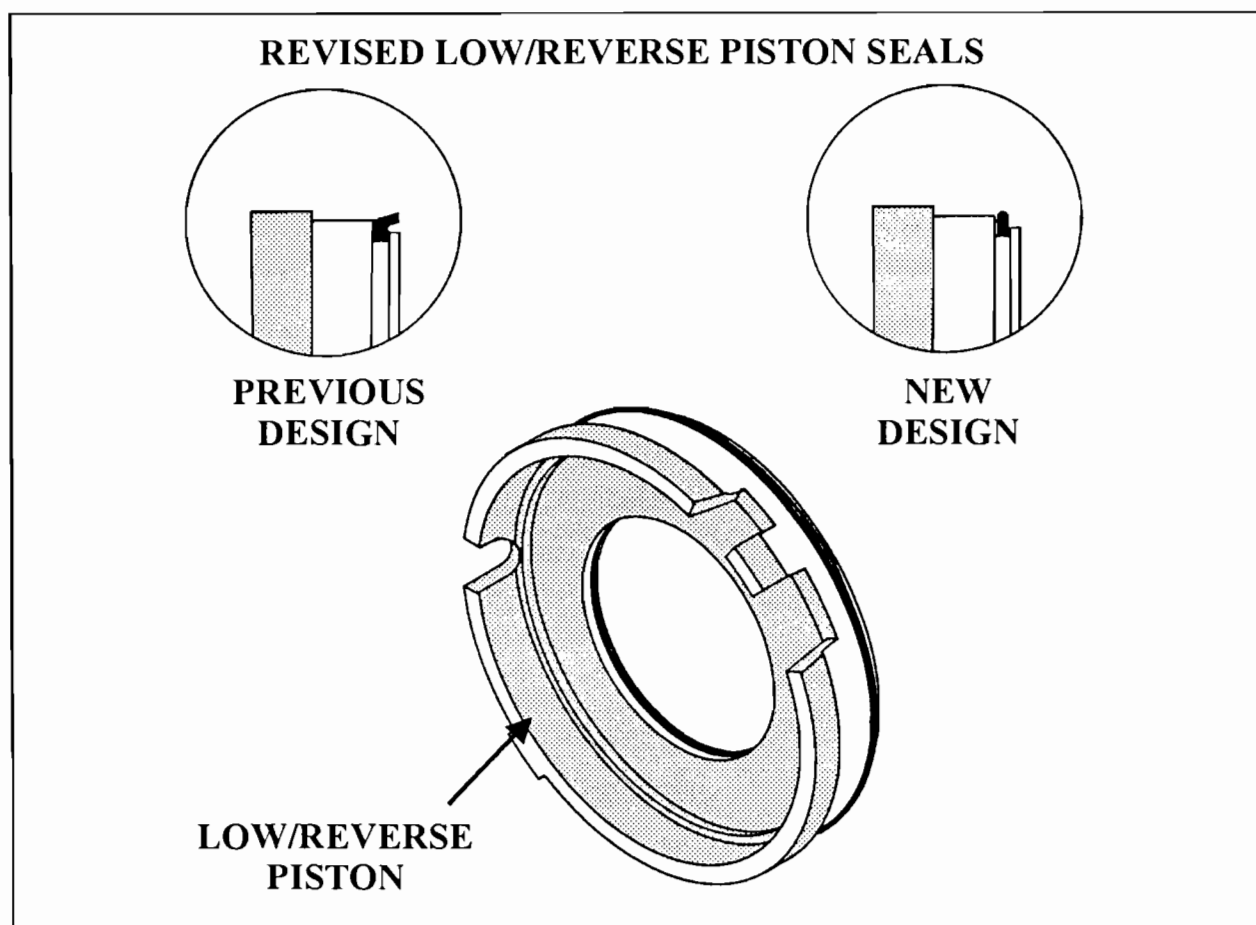

Figure 8
CHANGE: Beginning at the start of production for 1995 model year, all Chrysler A604 (41TE) and A606 (42LE) transaxles were produced using revised seals for the Low/Reverse piston. The previous "Lip" type seals have been replaced by a "D" Ring type seal for both inner and outer seals, as shown in Figure 8.
- (1) **LOW/REVERSE PISTON SEALS** - Both the inner and outer lip seals have been replaced by a "D" Ring type seal, as shown in Figure 8. There were no dimensional changes necessary to the Low/Reverse piston to accommodate the new "D" Ring seals. The seals are available under OEM part number 4659185 for the outer seal, and 4659184 for the inner seal.